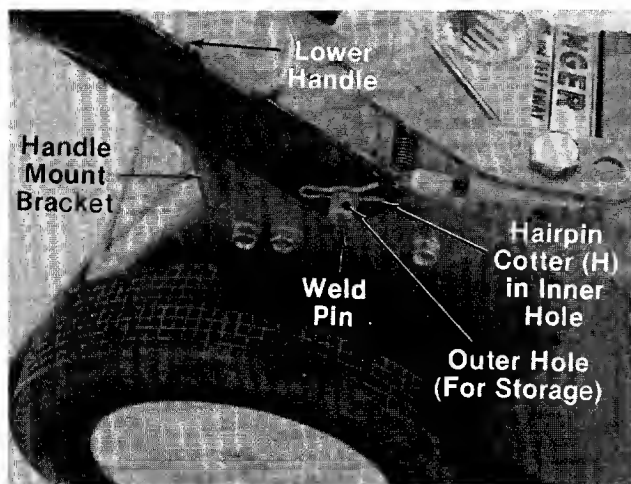

FIGURE 2.
- A (2) Curved Head Carriage Bolts
- B (2) Hand Knobs (Folding Handle Only)
- C (2) Lock Washers 5/16" I.D. (Non-Folding Handle Only)
- D (2) Hex Nuts 5/16-18 Thread (Non-Folding Handle Only)
- E (2) Cable Ties
- F (1) Hex Bolt 1/4-20 x 1.50" Long
- G (1) Hex Lock Nut 1/4-20 Thread
- H (2) Hairpin Cotter
3. Fasten lower handle in position over weld pins in handle mount brackets on deck. Secure with hairpin cotters (H) in inner hole on weld pin. See figure 2.